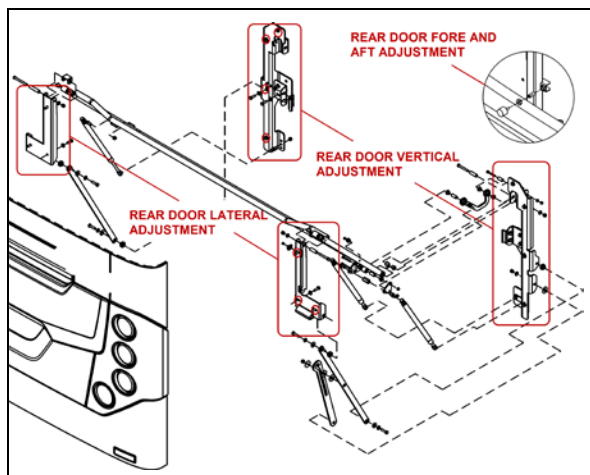

FIGURE 40: ENGINE COMPARTMENT DOOR 18633_1
1. To adjust the door VERTICAL position, loosen the bolts (4 on each side) holding the door supporting arm and gas springs bracket to the *vehicle structure* (Figure 40).
2. To adjust the door LATERAL position, loosen the bolts (3 on each side) holding the door supporting arm and gas springs bracket to the *door* (Figure 40).
3. Adjust the door FORE & AFT position by screwing/unscrewing the rubber door stops on each side of the door opening (Figure 40).